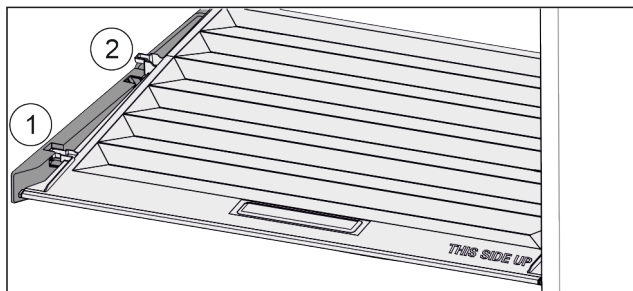

Fig. 147
- Pull the lid up at the front in the retaining parts to the opening Fig. 147 (1).
- Lift from the back and pull it up and out Fig. 147 (2).